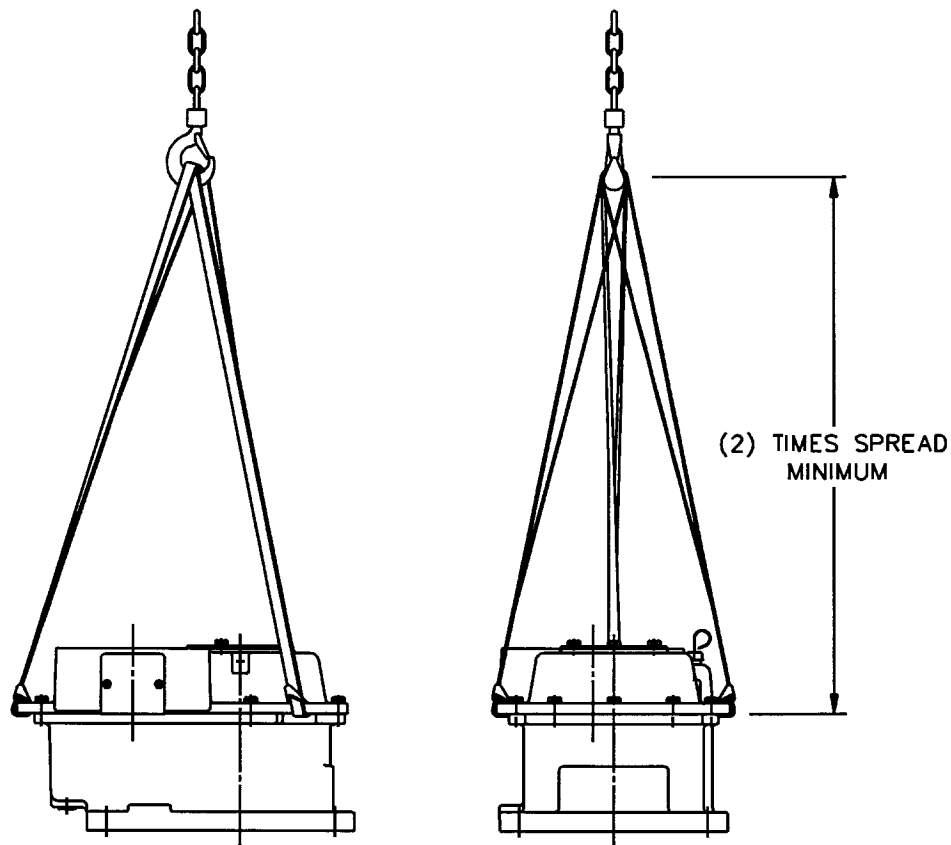

Figure 6: Agitator Lifting System
2. Remove all shipping materials. Refer to *Figure 6, page 15* for lifting instructions of the agitator. The approximate net weight of the unit is shown on the unit assembly drawing.
- 7h. Lift the agitator drive assembly (*Figure 6, page 15*) and lower it onto the pedestal [1101]. Install pivot shoulder bolt [1111] with Belleville washers [1112] into the gear drive housing. Install flatwasher [1113] and locknut [1114]. Tighten the locknut until the Belleville washers are compressed 1/16" (1.5 mm).
- 8f. Lift the agitator drive assembly (Figure 6, page 15) and lower it onto the pedestal [1101]. Install pivot shoulder bolt [1111] with Belleville washers [1112] into the gear drive housing. Install flatwasher [1113] and locknut [1114]. Tighten the locknut until the Belleville washers are compressed 1/16" (1.5 mm).
- 9i. Lift the agitator drive assembly (*Figure 6*, page 15) and lower it onto the pedestal [1101]. Install pivot shoulder bolt [1111] with Belleville washers [1112] into the gear drive housing. Install flatwasher [1113] and locknut [1114]. Tighten the locknut until the Belleville washers are compressed 1/16" (1.5 mm).